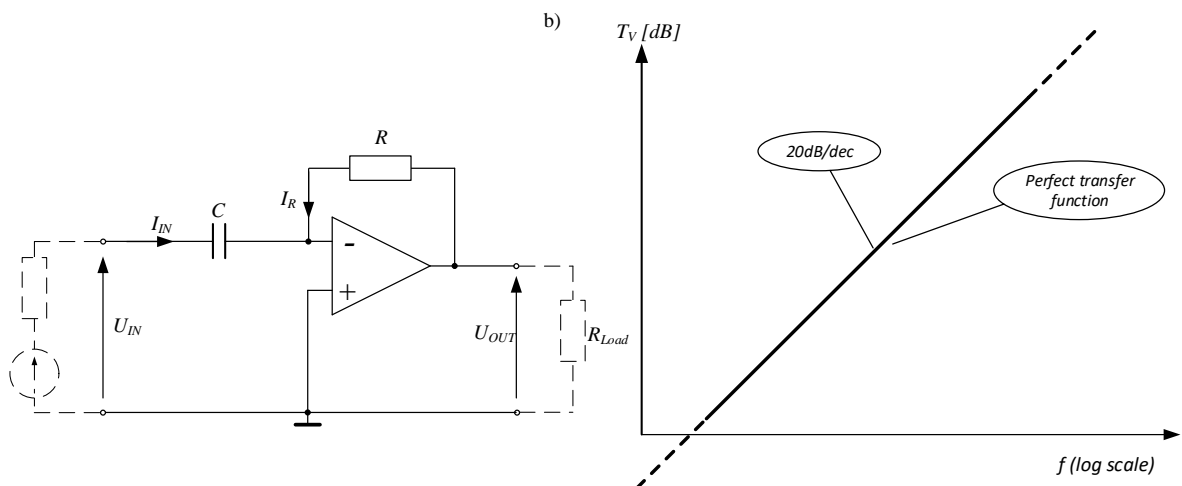

Fig. 4. Basic differentiator; a) schematic diagram, b) transfer function
If we provide to the integrator input, a square wave with the peak-to-peak value $U_{INpp} = 2U_{INm}$ and the frequency $f = 1 / T$, on the output we get a triangular wave - Fig. 4. The phase change (minus sign) of the output signal results from formula (6).
Basic schematic diagram of a differentiator is shown in Fig.4..